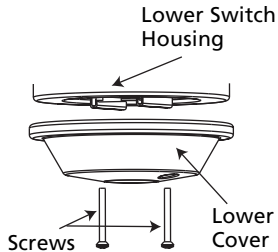

Figure 8f - Installing Lower Cover Without Light Kit
2. Place the Lower Cover (without light kit) over the Lower Switch Housing. Align holes in cover and bottom of Lower Switch Housing. Install two #6-32 x 1 1/4" screws. Refer to Figure 8f.